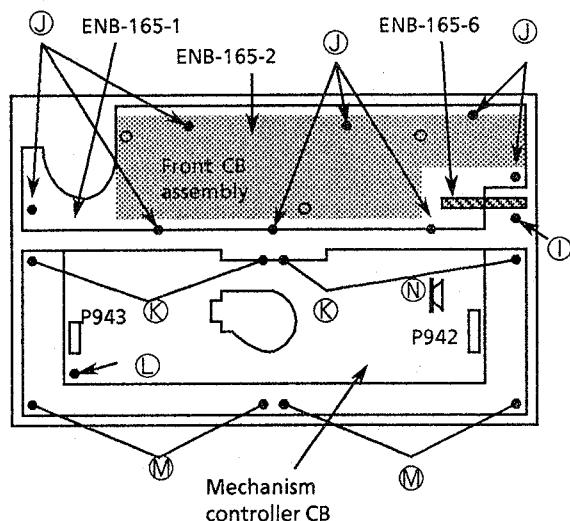

Fig. 6 Behind the front panel
4. Remove the screw ① to remove the headphone circuit board (ENB-165-6).
5. Remove the 8 screws ② fixing the assembly (Fig. 6).
3. Disconnect the connectors P492,493 (Fig.6).
4. Remove the 8 blue colored screws  and  fixing the mechanism assembly (Fig. 6).
2. Remove the screw ① and release the hook ⑩ (Fig.6).